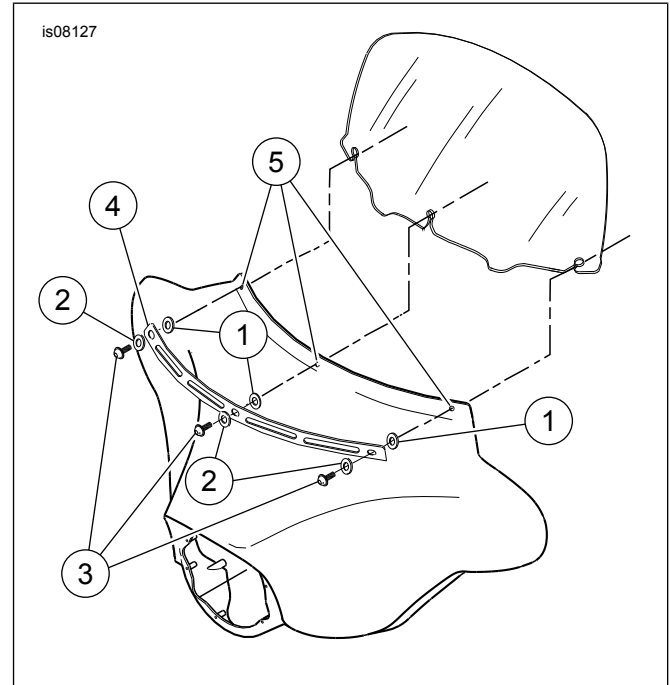

Figure 1. Service Parts
1. See Figure 1. Remove the three original equipment (OE) screws in the locations shown.